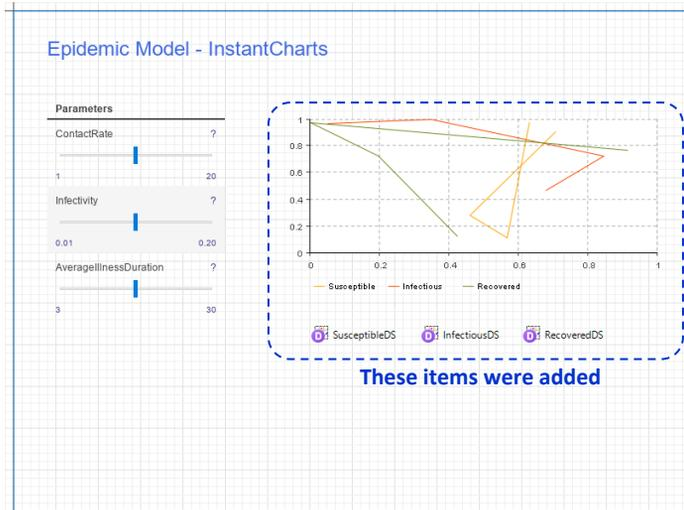

Figure 5.35 Auto-created and modified UI of the compare runs experiment
5. In the **Parameters** page of the wizard, choose the three parameters you are going to vary (all except for **TotalPopulation**) and move them to the **Selection** list. Click **Next** and, on the next page, click **Finish**. A new experiment is created, and you can see its default UI with three sliders, see Figure 5.35.
6. Delete the unnecessary graphics, as shown in the same Figure 5.35.